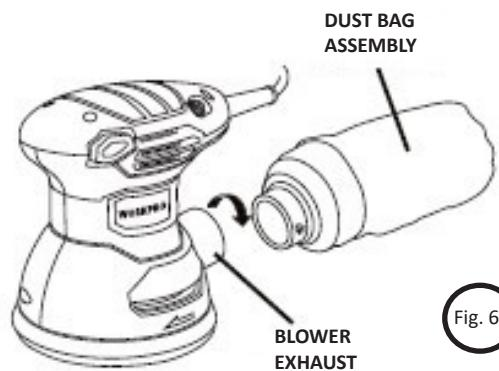

Fig. 6
**TO ATTACH THE DUST BAG ASSEMBLY (See Figure 6)**
**TO EMPTY THE DUST BAG ASSEMBLY (See Figure 6 and 7.)**